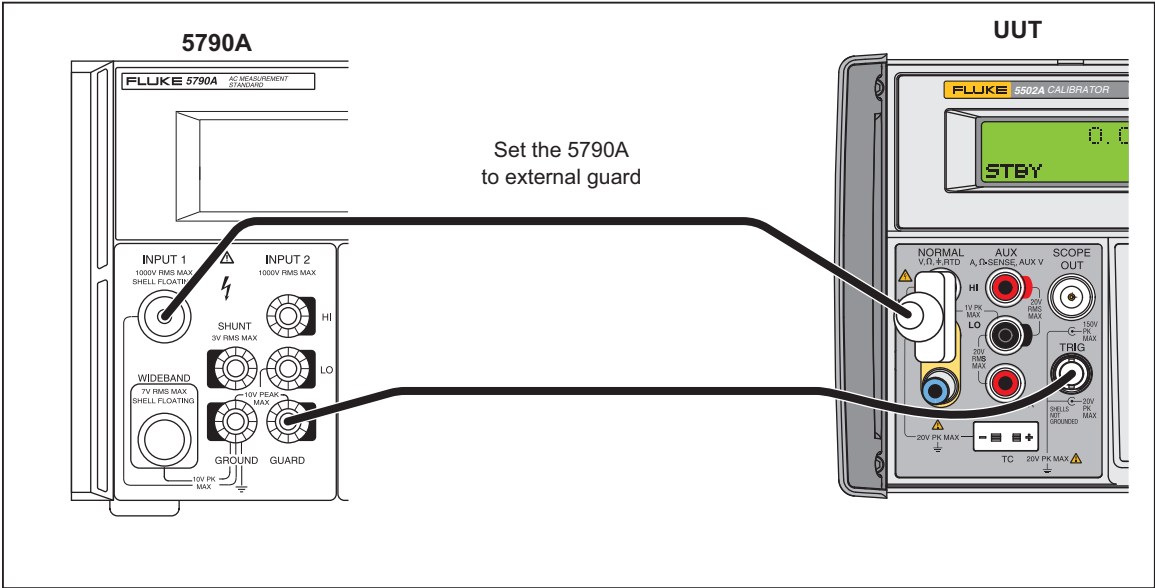

Figure 3-3. AC Volts Calibration Connections
- 1. Measure the Calibrator output with Input 1 of a Fluke 5790A AC Measurement Standard. Use a Type N to dual banana adapter as Figure 3-3 shows.